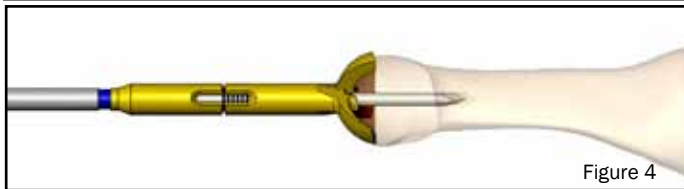
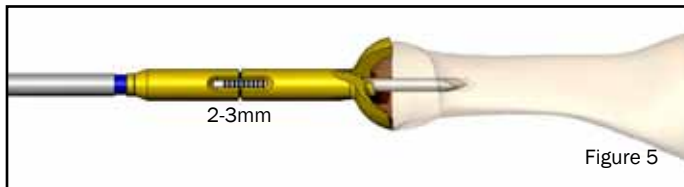

Figure 4
Figure 5
5. Select the spherical reamer which matches the corresponding drill guide. Once the reamer is fully seated against the metatarsal head, the zero calibration mark on the guide pin will be visible (Figure 4). Ream the metatarsal bone an additional 2-3mm until all articular cartilage is removed and bleeding bone is present. (Figure 5)